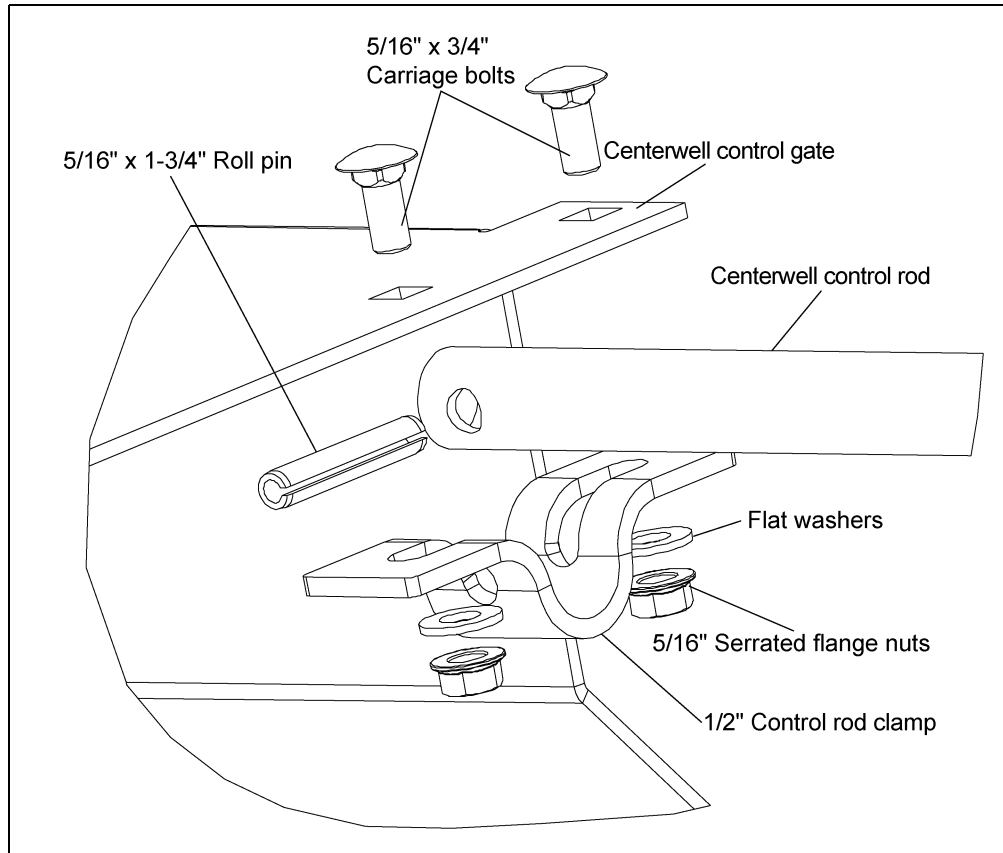

Figure 4N
4. Fasten clamp to bottom side of control gate by using two (2) 5/16" x 3/4" long carriage bolts and serrated flange nuts. (See Figure 4N.)